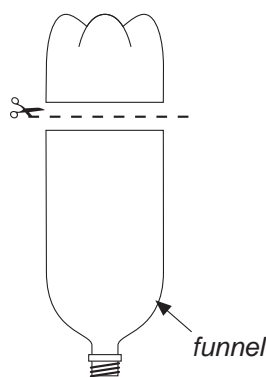

Figure 1: Make a funnel from a soft drink bottle
Step 1 Cut one of the soft drink bottles to make a funnel as shown in Figure 1.